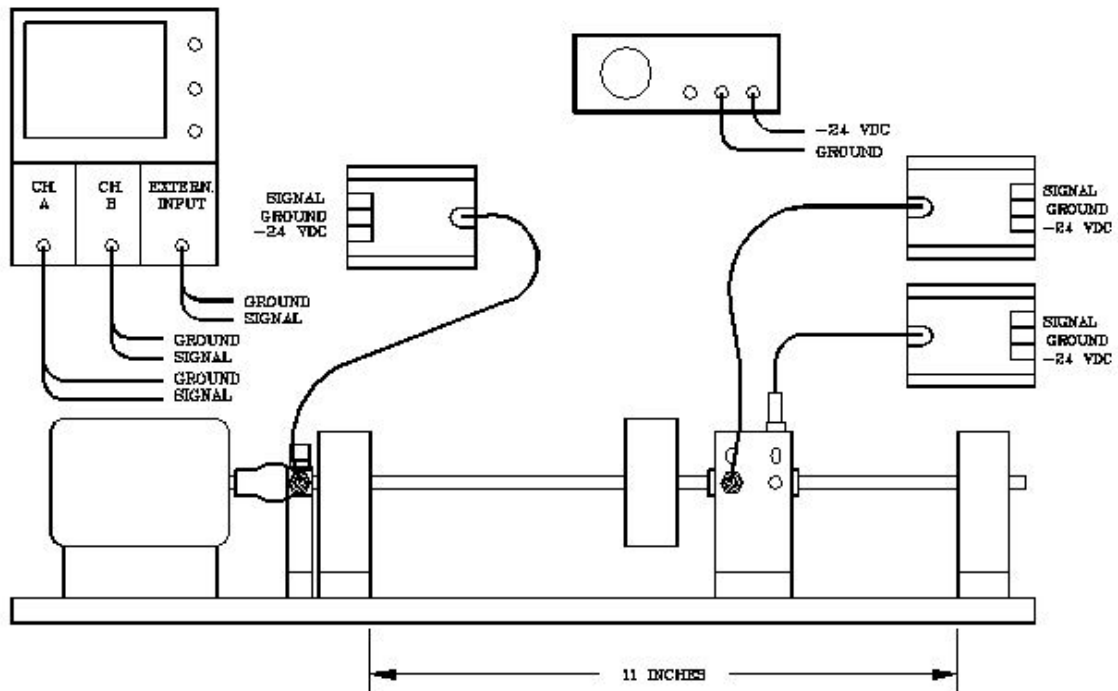

Fig. 8.1
Assemble the demonstration rotor using two (2) sleeve bearing assemblies, one (1) rotor mass, and one (1) transducer pickup mount as shown in Figure 8.1. Install the phase transducer so that it views the notch in the coupling. Install two (2) transducers in the transducer mount so that they are 90° apart from each other with one transducer mounted vertically.